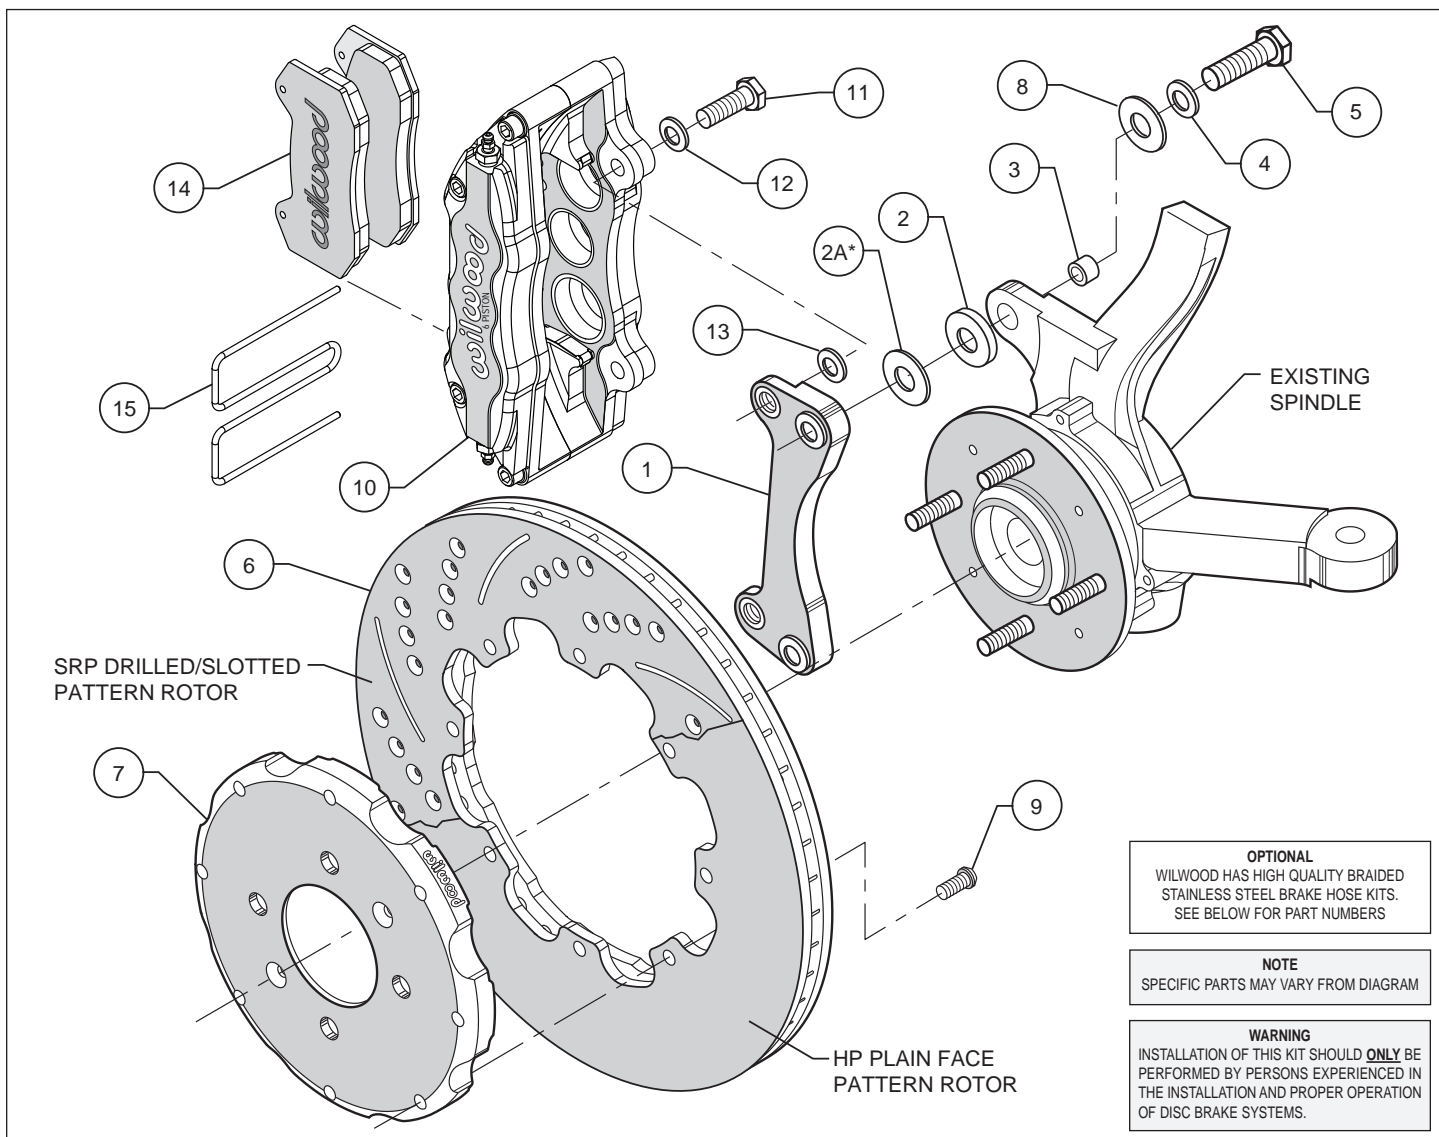

Figure 1. Typical Installation Configuration, Left Hand Application Shown
- Insert one sleeve (3) each into the holes on the top and bottom of the spindle "ears" where the OEM caliper bracket was removed. Apply red *Loctite*® 271 to the mounting bolt threads (5) before installation of the caliper mounting bracket (1). Install the bracket with the flanged heads of the clinch nuts facing outboard, as shown in Figure 1. Slide bolt (5) through washer (4) and shim (8) into the previously installed sleeve (3) from the backside of the spindle. Position .125 thick spacer (2) [and (2A) for 2001 Honda Civic only] between the spindle and the bracket. Torque bolts to 60 ft-lb..
- With the larger I.D. side of the rotor (6) facing away from the hat (7), attach rotor (6) to hat (7) using bolts (9) as shown in Figure 1. Using an alternating sequence, remove bolts (9) one at a time, apply red *Loctite*® 271 to the threads, and torque to 25 ft-lb.